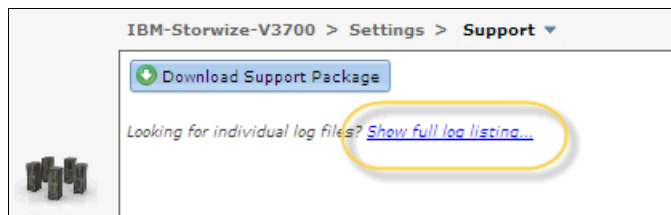

Figure 9-18 Configuration backup show full log list
3. Select **Show full log listing** (as shown in Figure 9-18) to list all available log files that are stored on the configuration node.